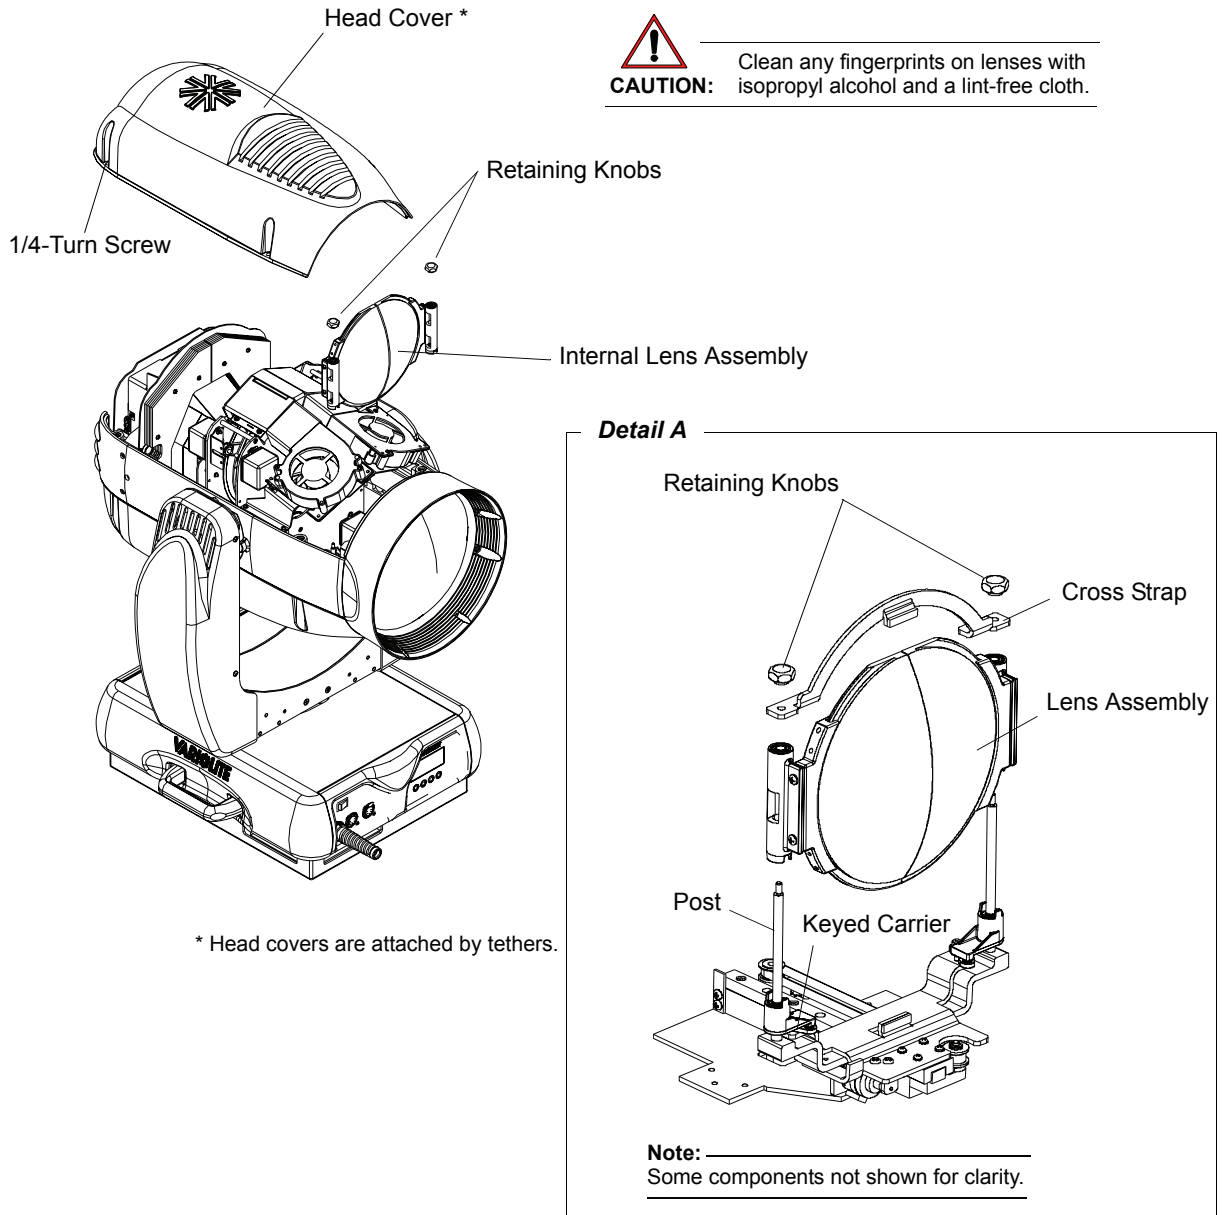

Figure A-3: Internal Lens Replacement
Step 3. As shown in Figure A-3, remove appropriate head cover by loosening four 1/4-turn screws.
CAUTION: As shown in **Detail A** in Figure A-3, insure that the lens assembly is aligned and fits properly into keyed carrier.